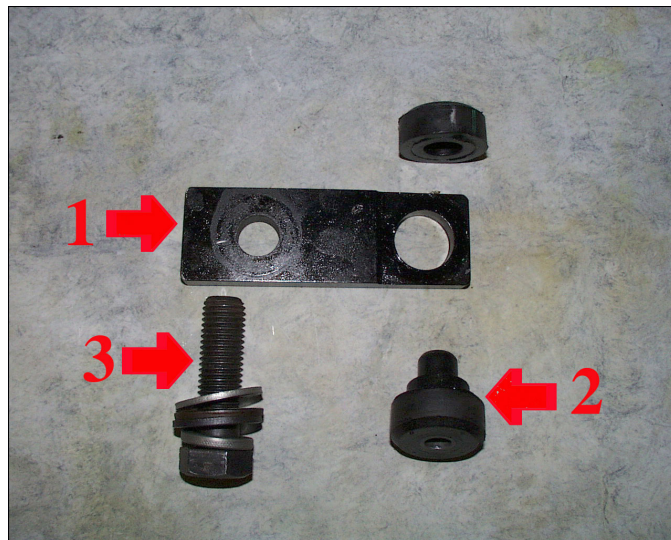

Figure 3
- 103 Select four support bars (Arrow 1 in Figure 3), rubber bushings (Arrow 2 in Figure 3), and mounting bolts (Arrow 3 in Figure 3).